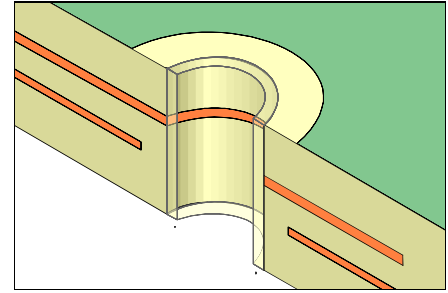

Figure 4: Completed repair.
12. Select an end mill or drill as needed. Insert the cutting tool into the Precision Drill System. Mill directly through the center of the cured epoxy. The surface pad remaining may be used as a target location for accuracy. A microscope should be used during milling for accuracy. (See Figure 4).